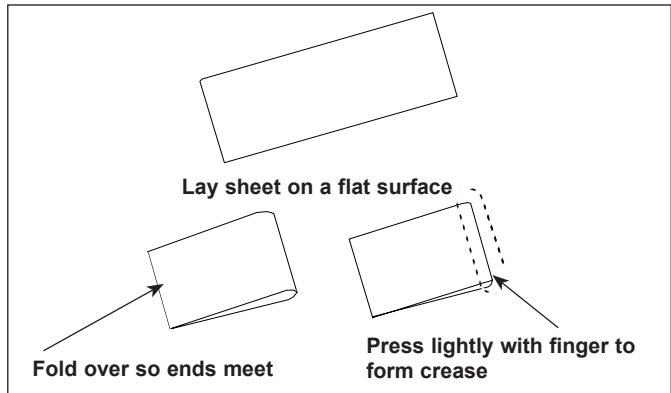

Figure 3. Folding Release Sheet
4. Remove the Release Sheet from the plastic bag and lay it on a clean, flat surface. Fold the sheet exactly in half (Figure 3).
5. Crease the sheet at the fold using only your finger (Figure 3).
**NOTE:** The Bun Thickness Compression Knobs (Figure 3) must be set to “6 & 6” prior to measuring or removing or reinstalling the Conveyor Belt Chains.